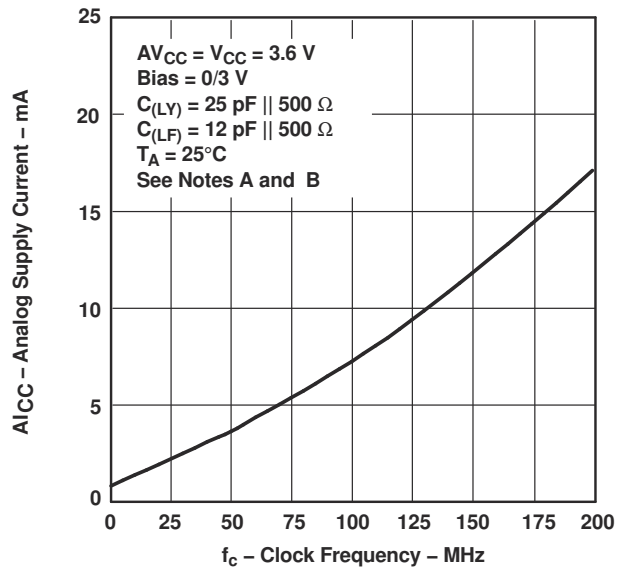

图 4-6. Analog Supply Current vs Clock Frequency
(1) For conditions shown as MIN or MAX, use the appropriate value specified under the *recommended operating conditions* section.
(2) For dynamic I_{CC} vs Frequency, see 图 4-6 and 图 4-7.